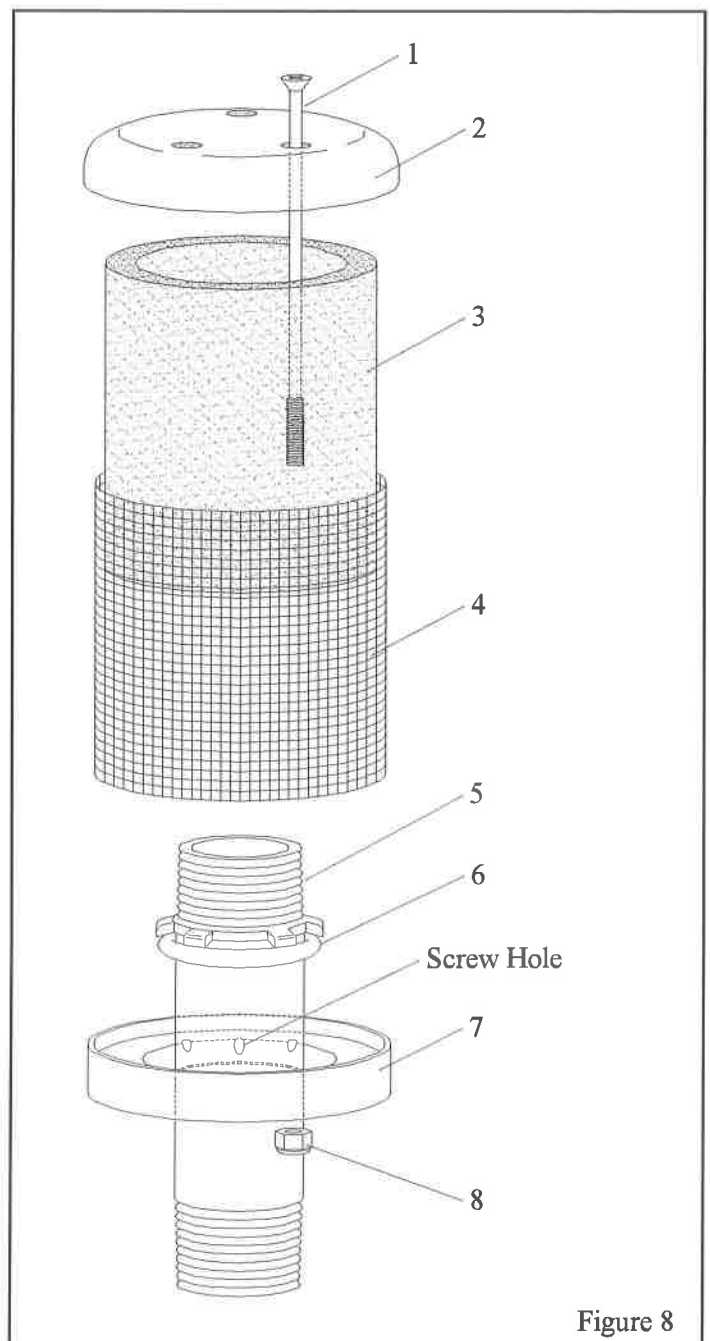

Figure 8
6.5 Exhaust Muffler, Figure 8
6.5.7 Reassemble, taking care to correctly insert the screws in the seat plate. The screw holes are the three closest to the center. See the illustration in Figure 8.
8.4 Exhaust Muffler, Figure 8